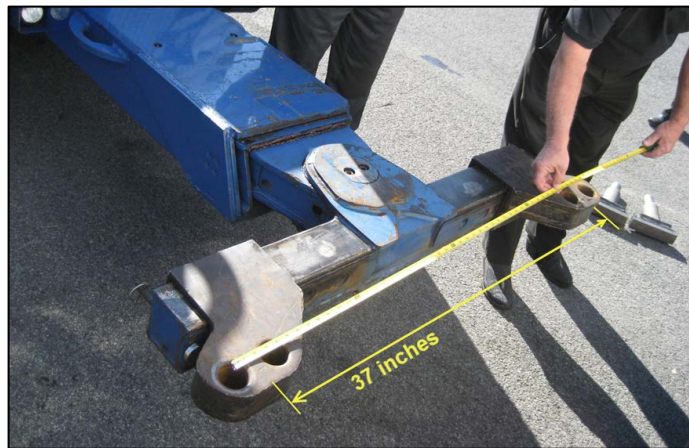

FIGURE 29
*Center to center measurement between tow eyes= 37 inches (Figure 29)*